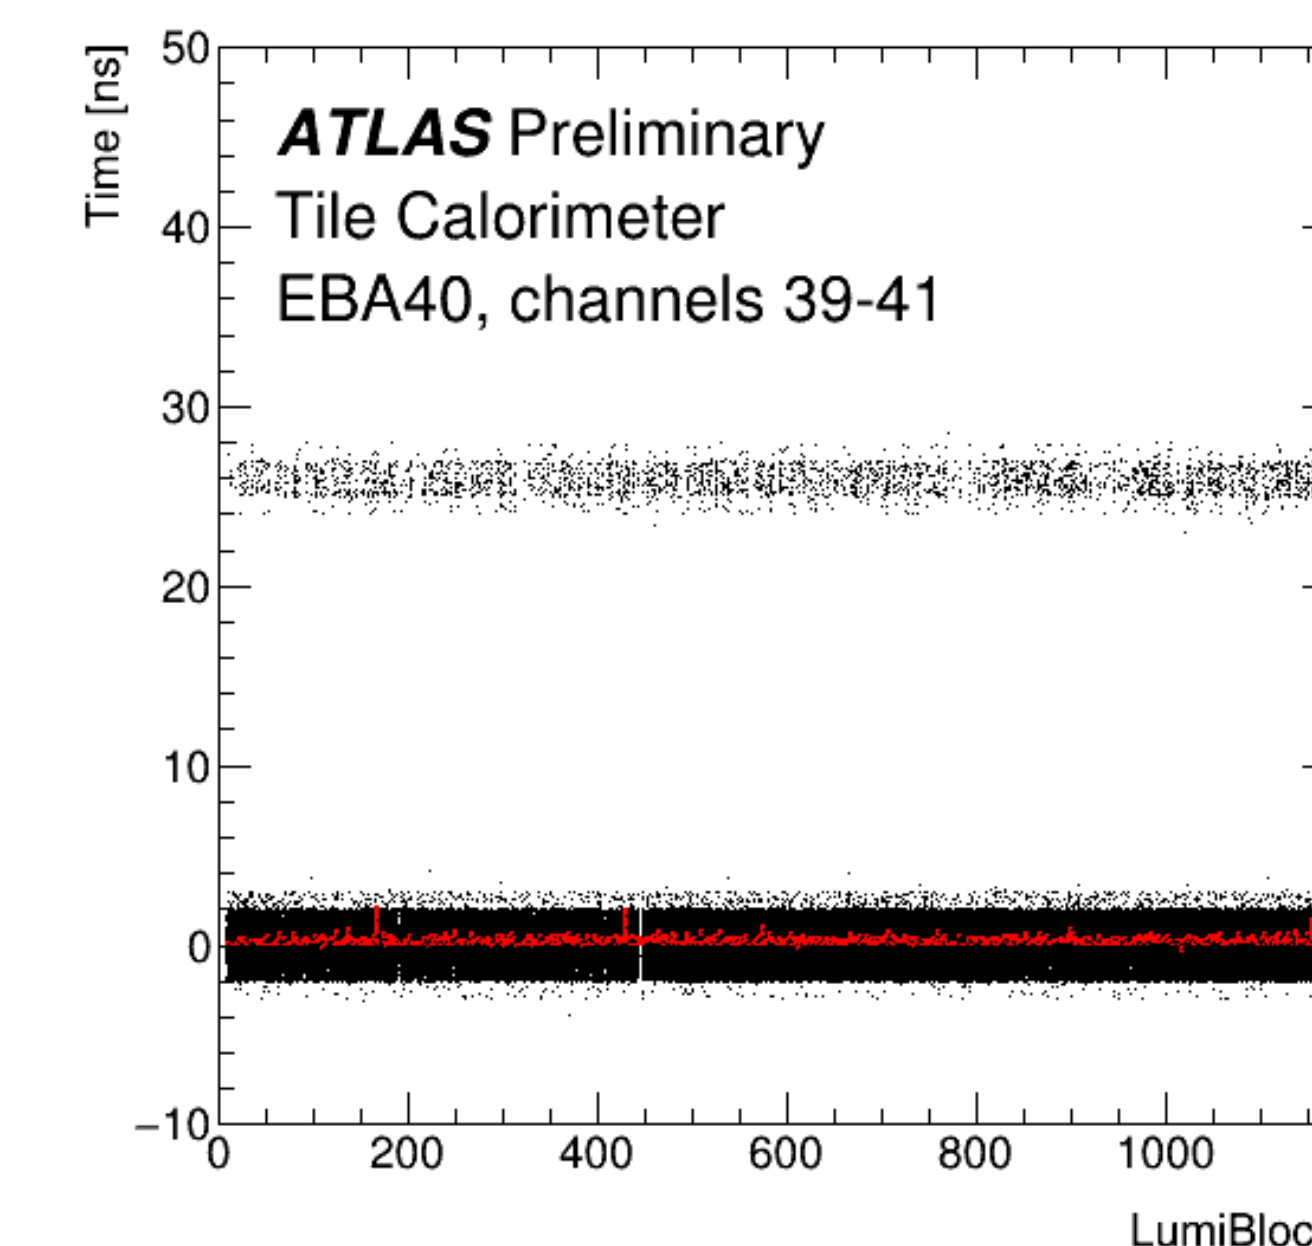
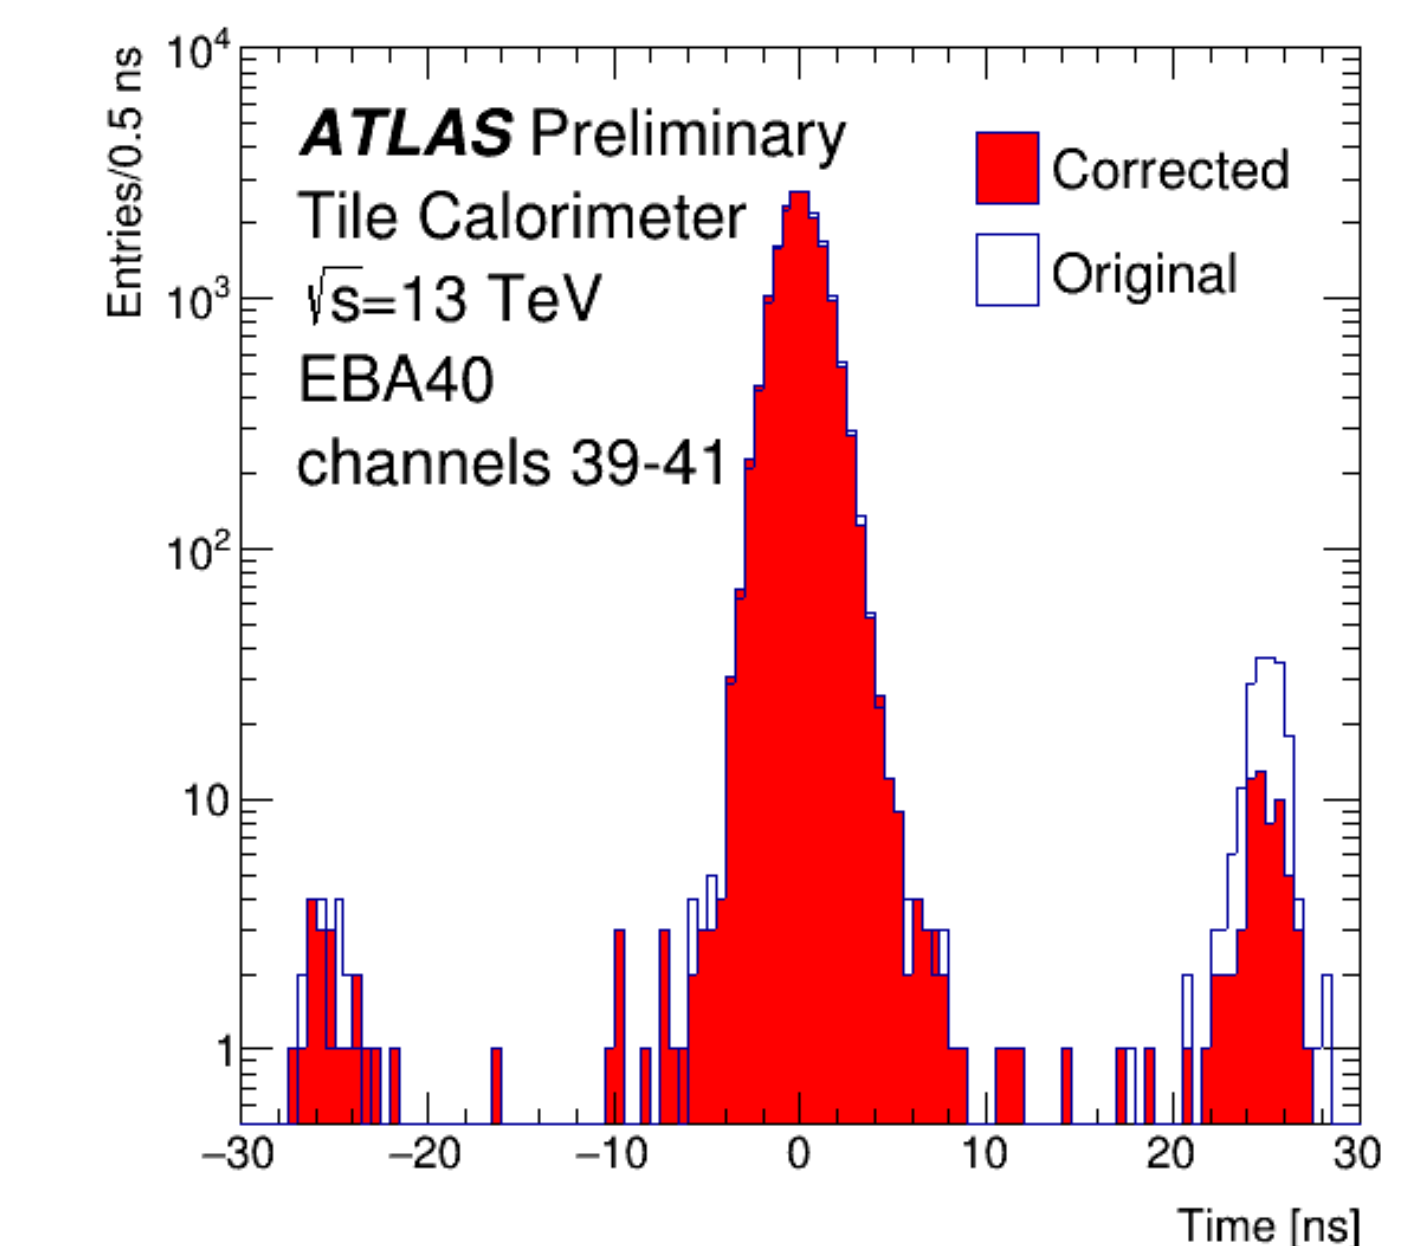

Fig. 5: BCO observed in laser-in-gap
Fig. 6: BCO observed in physics
- First observed in laser-in-gap events (Fig. 5), also seen in physics events (Fig. 6)